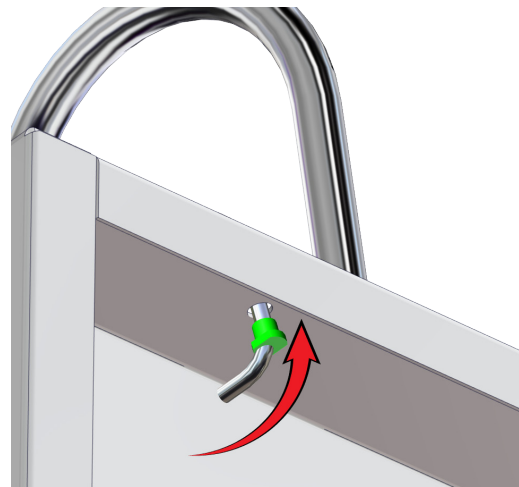

Fig. 5: Secure spout with bushing
3. Re-install the bushing onto the spout from inside the cabinet (Fig. 5).